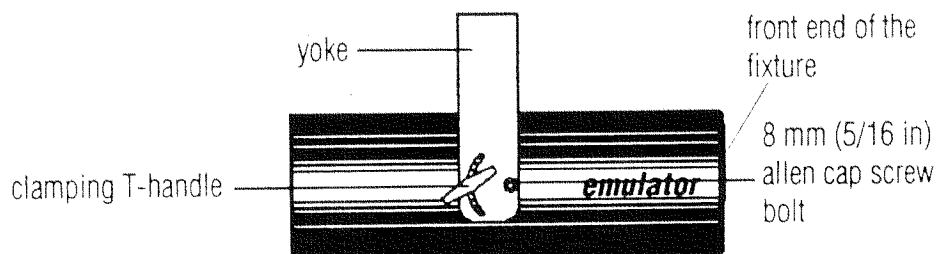

Figure 2.1 Emulator Fixture - Side View
- One yoke (See Fig. 2.1)
- Two 8 mm (5/16 in) allen cap screw bolts * (See Fig. 2.1)
- Two clamping T-handles * (See Fig. 2.1)